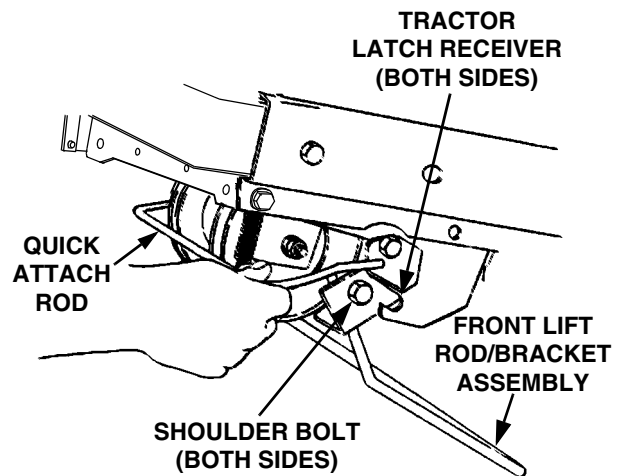

Figure 42
9. From the front of the tractor, push downward and hold the tractor quick-attach rod. Pull the front lift rod/bracket assembly forward to release the shoulder bolts on each side of the bracket from the left and right tractor latch receivers. Release the tractor quick-attach rod (Refer to Figure 42).